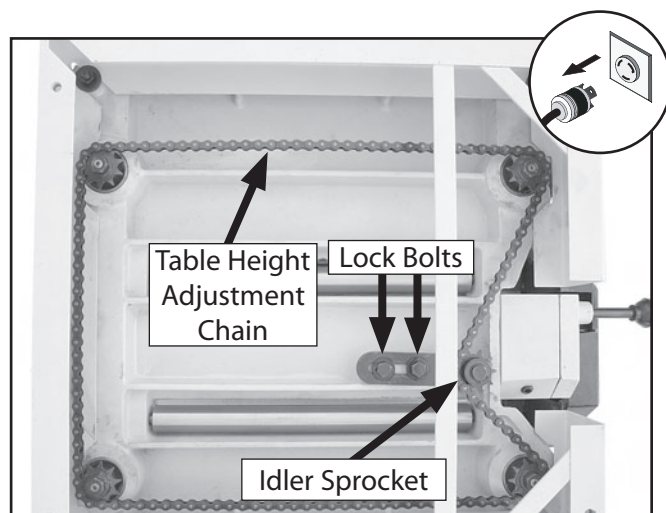

Figure 31. Underside of table.
Chain: The table height adjustment chain (see **Figure 31** on **Page 27**) should be inspected monthly and lubricated with general purpose grease when needed.
- Loosen the two locking bolts (**Figure 31**) behind the idler sprocket and move the sprocket against the chain to tighten it.